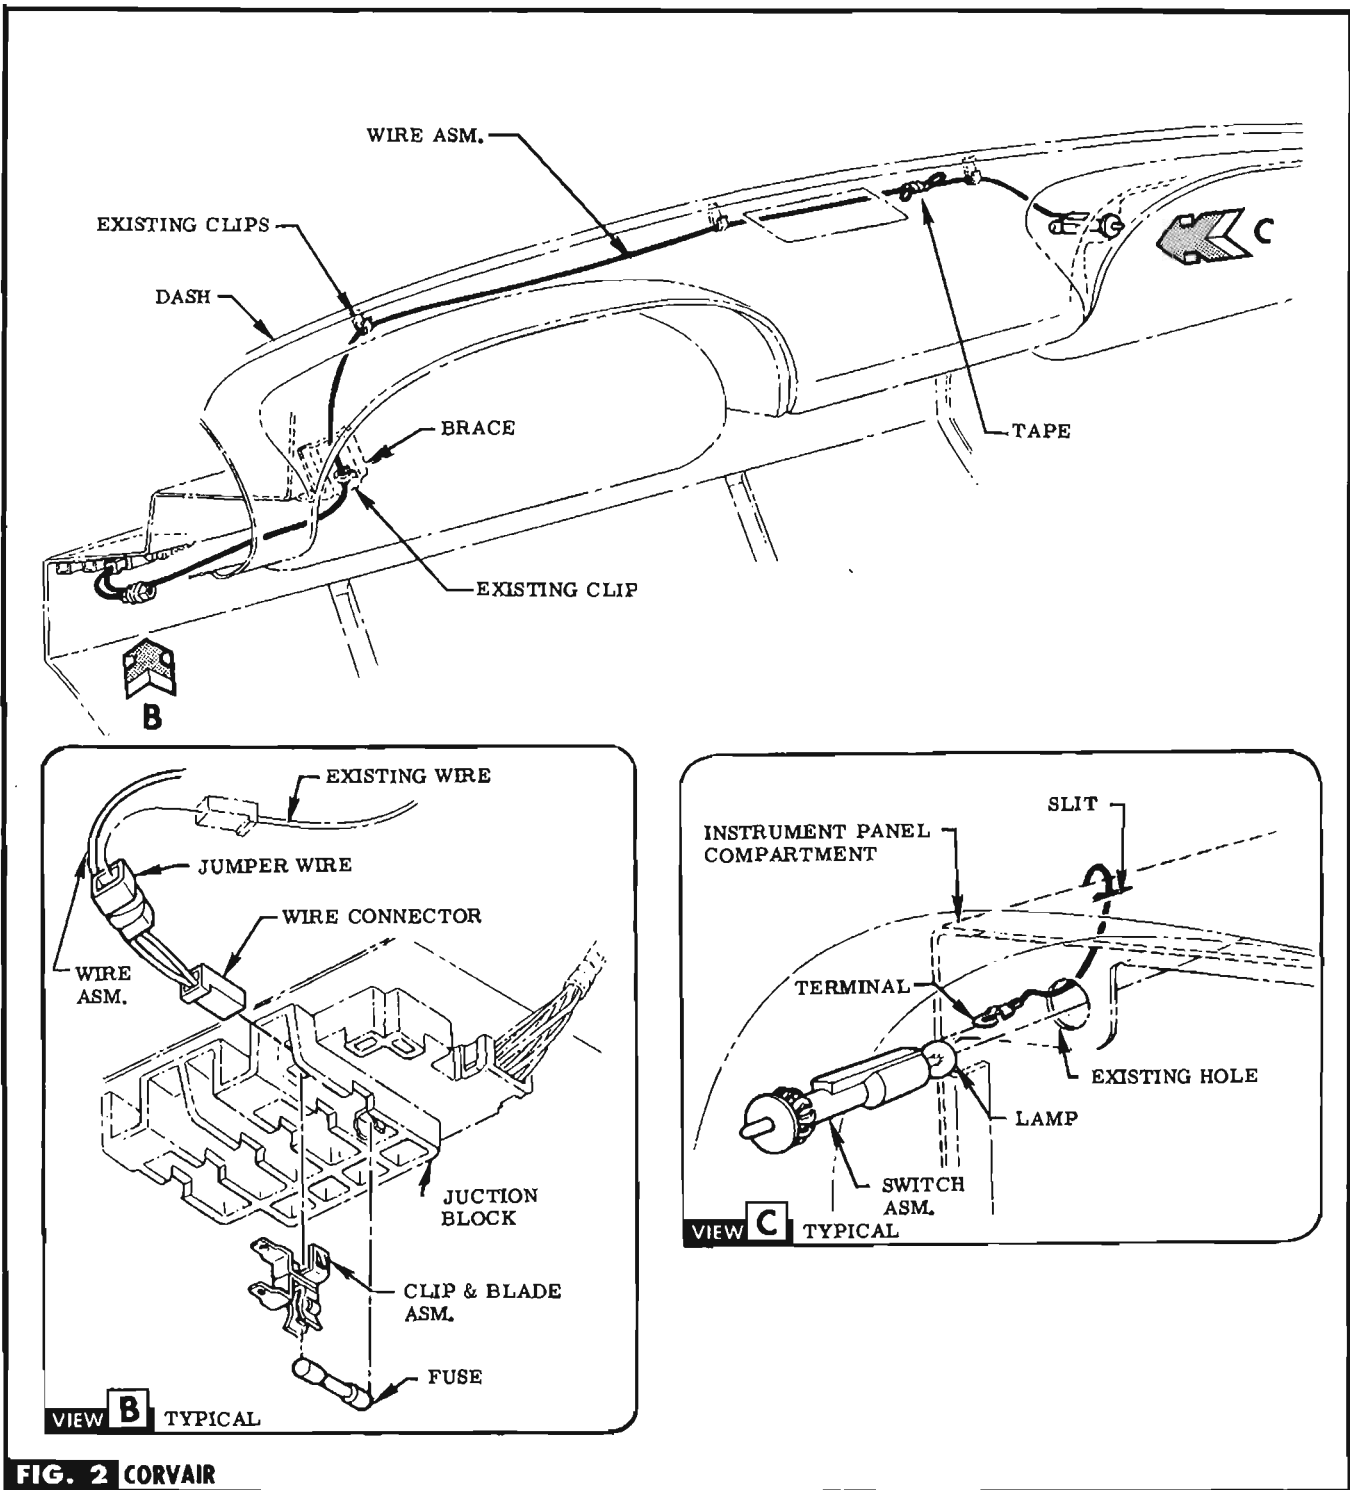
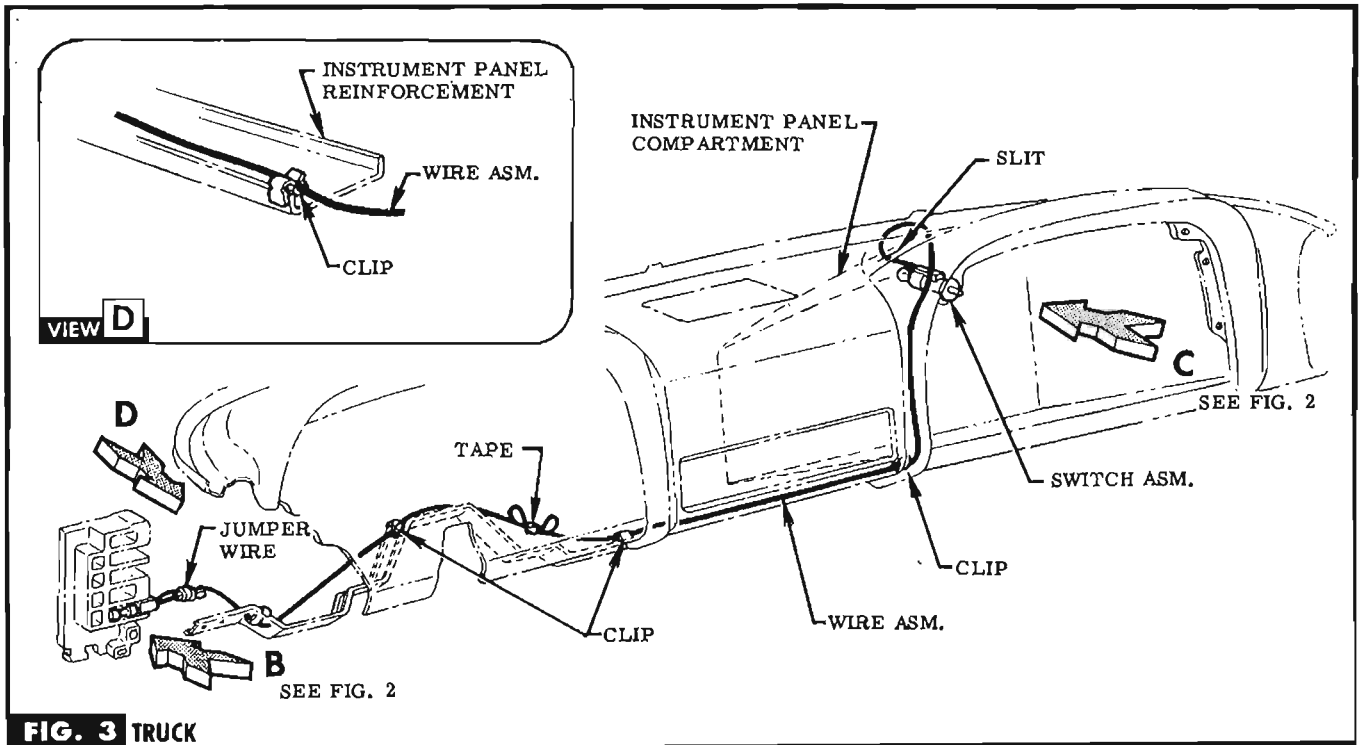

FIG. 2 CORVAIRE
FIG. 3 TRUCK
STEP 1a ROUTE WIRE TERMINAL THRU SLIT IN UPPER LEFT HAND CORNER OF INSTRUMENT PANEL COMPARTMENT & THRU HOLE IN UPPER LEFT SIDE OF COMPARTMENT OPENING. SEE FIG. 2 & VIEW C.
JUNCTION BLOCK. SEE FIG. 2.
STEP 5a LOOP & TAPE EXCESS WIRE. SEE FIG. 2.
STEP 1b ROUTE WIRE TERMINAL THRU SLIT IN UPPER LEFT HAND CORNER OF INSTRUMENT PANEL COMPARTMENT & THRU HOLE IN UPPER LEFT SIDE OF COMPARTMENT OPENING. SEE FIG. 3 OR 4 & VIEW C, FIG. 2.
STEP 2b ASSEMBLE WIRE TERMINAL TO SWITCH. INSERT LAMP & PRESS SWITCH INTO POSITION. SEE FIG. 3 OR 4 & VIEW C, FIG. 2.
STEP 4b (TRUCK) MOUNT CLIPS ON FORWARD FLANGE OF INSTRUMENT PANEL REINFORCEMENT & ROUTE WIRE THRU THESE CLIPS TO JUNCTION BLOCK. SEE FIG. 3, & VIEW D.
STEP 5b PRESS CLIP & BLADE INTO RECEPTACLE MARKED "GL. BOX LP." INSERT FUSE & CONNECT WIRE. SEE VIEW D & FIG. 2. **NOTE** If receptacle is occupied, remove existing wire & connect to jumper wire.
STEP 6b LOOP & TAPE EXCESS WIRE. SEE FIG. 3 OR 4. **NOTE** Discard remaining parts.